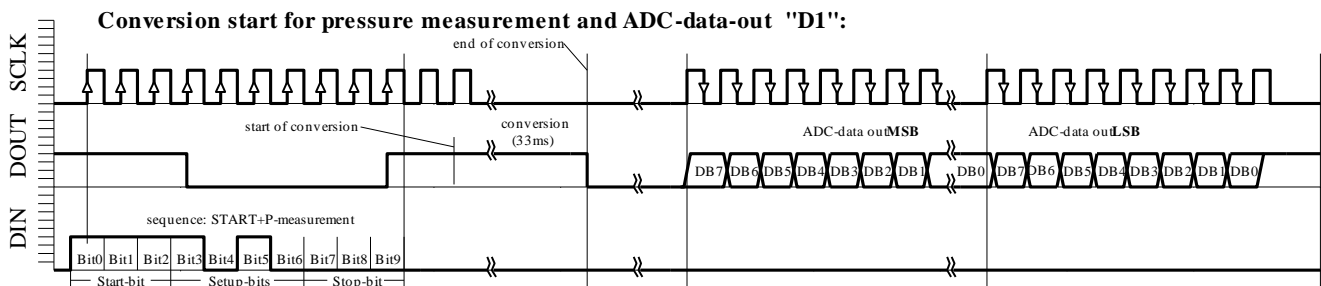

Fig. 6a: D1 ACQUISITION sequence
- ◆ Conversion start for pressure measurement and ADC-data-out “D1” (Figure 6a)